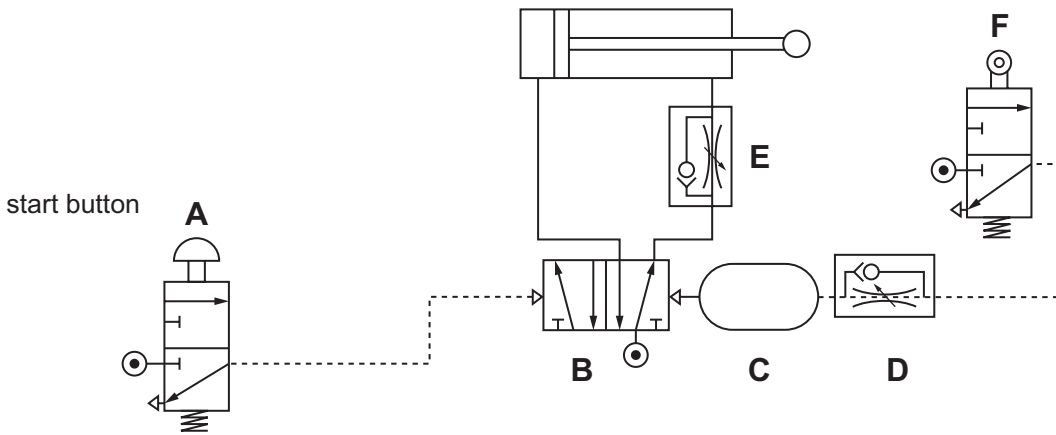

Fig. 2
(b) The pneumatic circuit used to control the cylinder in Fig. 1 is shown in Fig. 2.
- (iv) The circuit in **Fig. 2** is to be modified so that the start signal can be given from either of two positions.
Show on **Fig. 2** the connecting pipes and additional valves needed to achieve this.